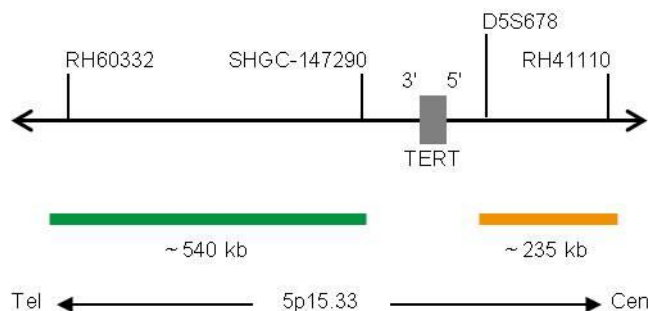

Fig. 1: SPEC TERT Probe map (not to scale)
- ZyGreen (excitation 503 nm/emission 528 nm) labeled polynucleotides (~10.0 ng/μl), which target sequences mapping in 5p15.33* (chr5:620,184-1,161,456) distal to the TERT breakpoint region (see Fig. 1).
- ZyOrange (excitation 547 nm/emission 572 nm) labeled polynucleotides (~4.5 ng/μl), which target sequences mapping in 5p15.33* (chr5:1,353,007-1,588,209) proximal to the TERT breakpoint region (see Fig. 1).